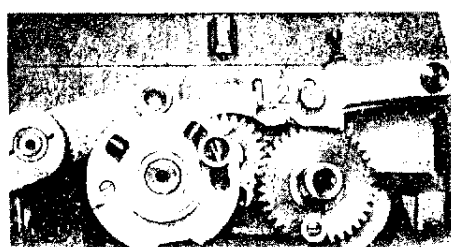

Fig 19
(I) SELECTION 8 POINTS - FIG. 19 & 20
LA SELECTION 8 POINTS PEUT ETRE EFFECTUEE EN TIRANT LE BOUTON DE CAME (2) VERS L'OPERATEUR (FIG. 19) ET LORSQU'IL EST DEPLACE DANS LA DIRECTION DE LA FLECHE, ET FIXE EN POSITION (2) FIGURE 20, LA CAME (1) STOPPE AU BOUT D'UN DEMI TOUR ET PERMET LA SELECTION 8 POINTS.
APRES AVOIR SELECTIONNE LA POSITION 8 POINTS, TOURNER LE BOUTON DE LA CAME D'EMBRAYAGE (2). LA CAME (1) - A LA POSITION MONTREE FIG. 19 - VA EFFECTUER UNE REVOLUTION COMPLETE PAR CYCLE ET PRODUIRE 16 POINTS.